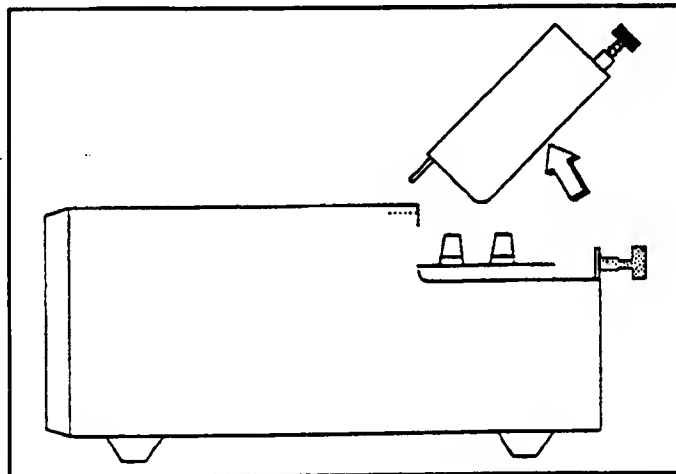

Figure 4.1 Removing the probe cover
2. Loosen the two spring-loaded thumbscrews at the back of the DP95, which hold the probe connection cover in place. The screws are attached to the cover by springs, so you do not have to remove the screws completely. Lift and remove the cover, as shown in Figure 4.1.